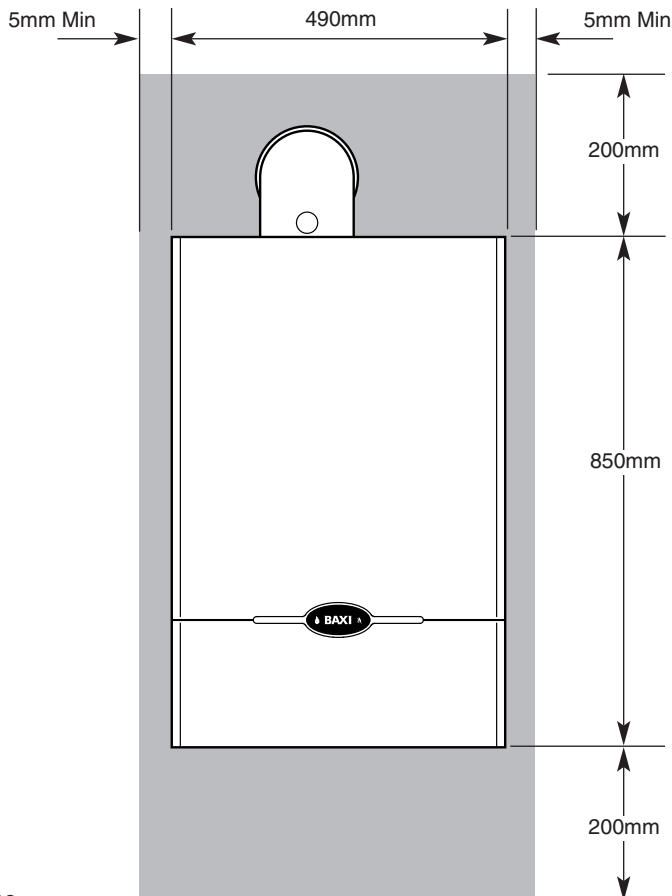

Fig. 10
4.1 Clearances around the Boiler (Figs. 10 & 11)